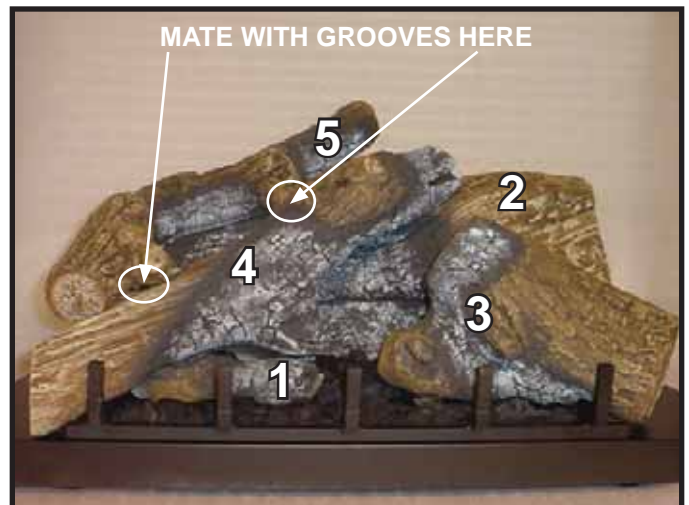

Figure 3.
**LOG #5 (SRV2065-701)** Place log #5 on log #2. Log #5 will mate with the grooves located on the top side of Log #4. See Figure 3.